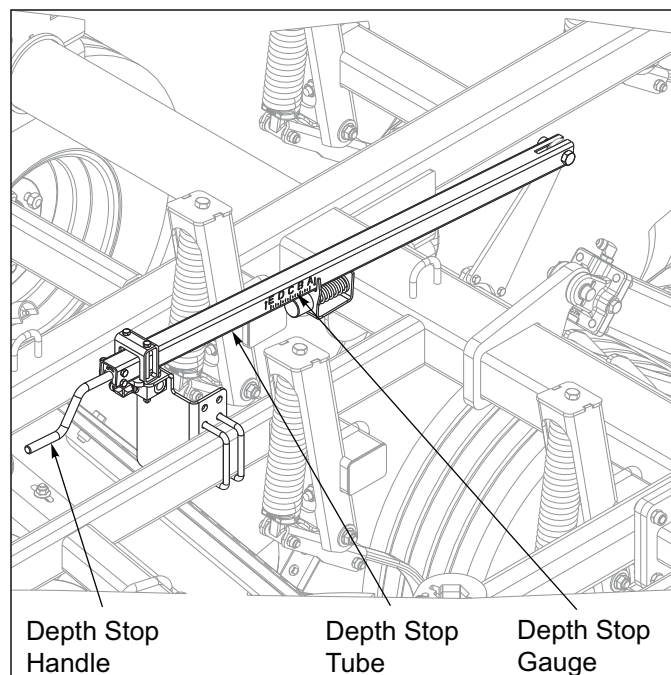

Figure 4-4: Depth Stop Adjustment
1. The operating depth of the Tilloll is controlled by a single-point depth stop. The stop is located at the center front of the machine **See Figure 4-4**.